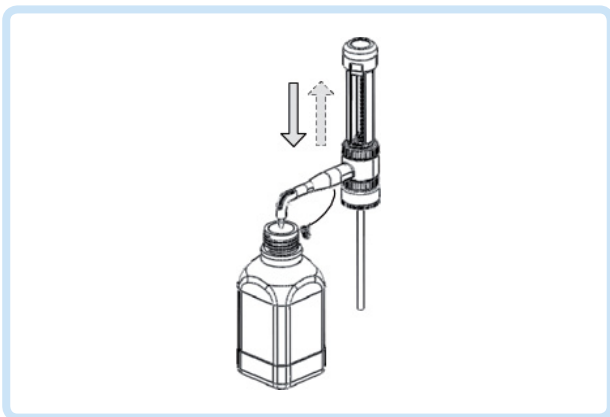

Figure 10
- Empty the instrument (Figure 10).